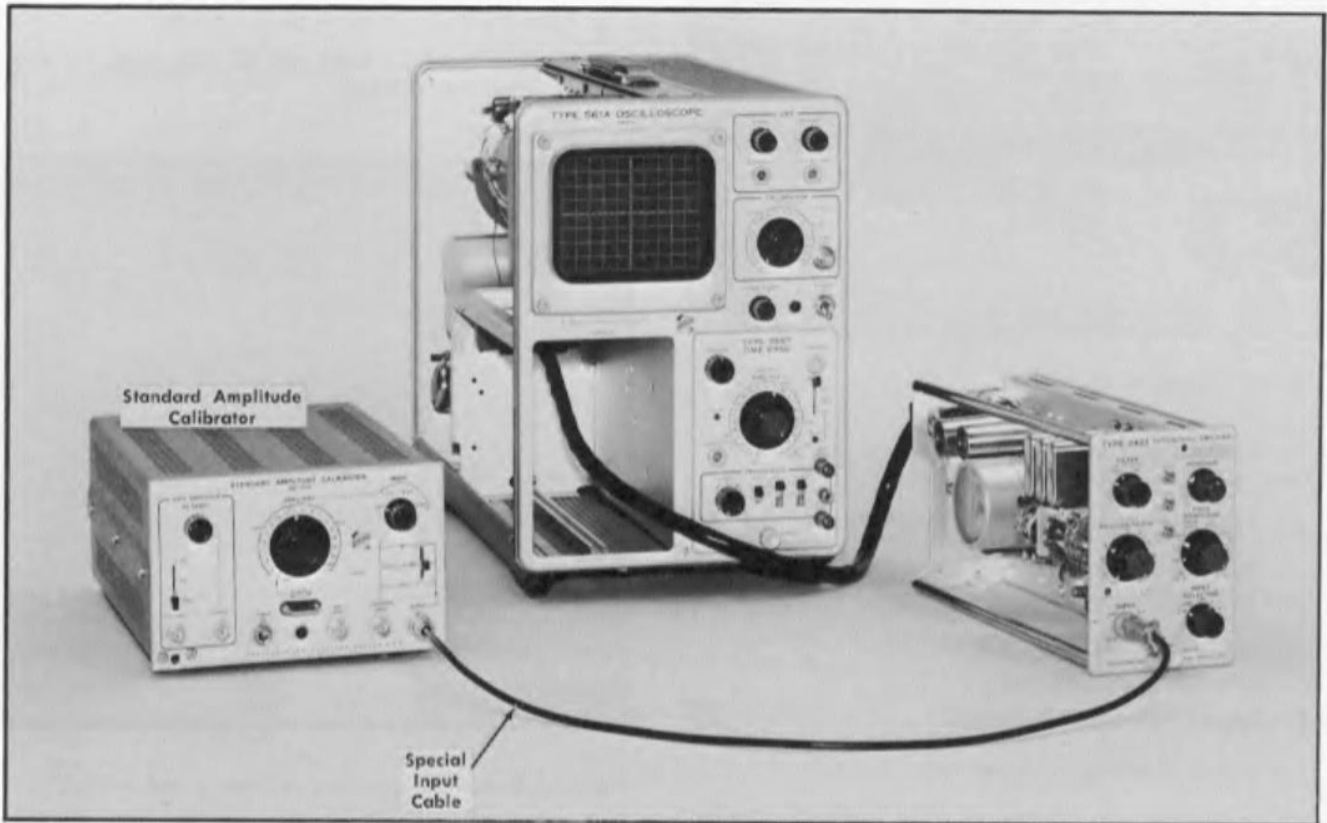

Fig. 6-11. Initial test equipment setup for steps 8 and 9.
8. Adjust Gain (Preset) ①
- a. Test equipment setup is shown in Fig. 6-11.